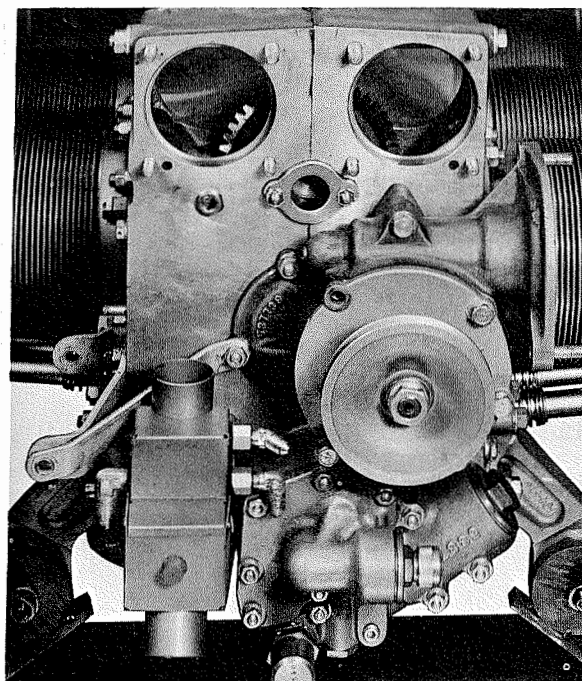

Figure 8-7. Fuel Pump, Oil Pump and Starter Adapter Installed.
- b. Lubricate spur gear and mesh it with crankshaft gear as adapter is placed in position. Seat adapter against gasket. Secure IO-520-A adapter with two sets of nuts and washers and two bolts and lockwashers. Attach lower generator support bracket as shown in figure 8-7. Secure IO-520-B and C adapter to crankcase with five sets of nuts, plain washers and lockwashers.